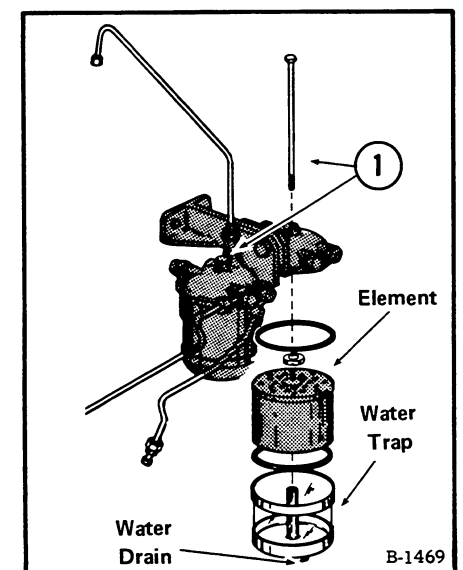

Fig. 1-26 Fuel Filter Parts
- (1) Carefully clean filter housing area.
- (2) Loosen and remove retaining screws of both primary and secondary filters (Fig. 1-26, Item 1).
- (3) Remove filter cartridges and O-ring seals.
- (4) Clean water trap and fuel bowl.
- (5) Install new filters and O-ring seals of identical type. Hold firmly in position while tightening retaining screw. DO NOT overtighten!
- (6) After filters are reassembled, it is necessary to remove air from the fuel system. See "Changing the fuel system" below.